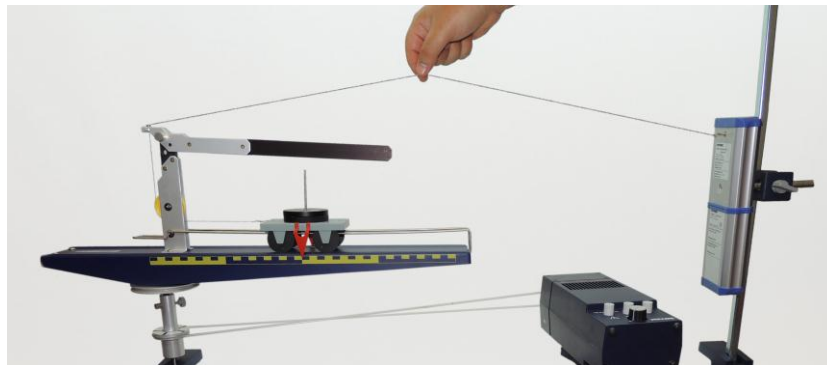

Figure 5.10: Holding the fishing line up before the motor starts rotating.
- Never use the **“13000 rpm”** (15) button.
- **Hold the fishing line up** (see Figure 5.10) before the motor starts rotating and let it go after the cart track completes one rotation.